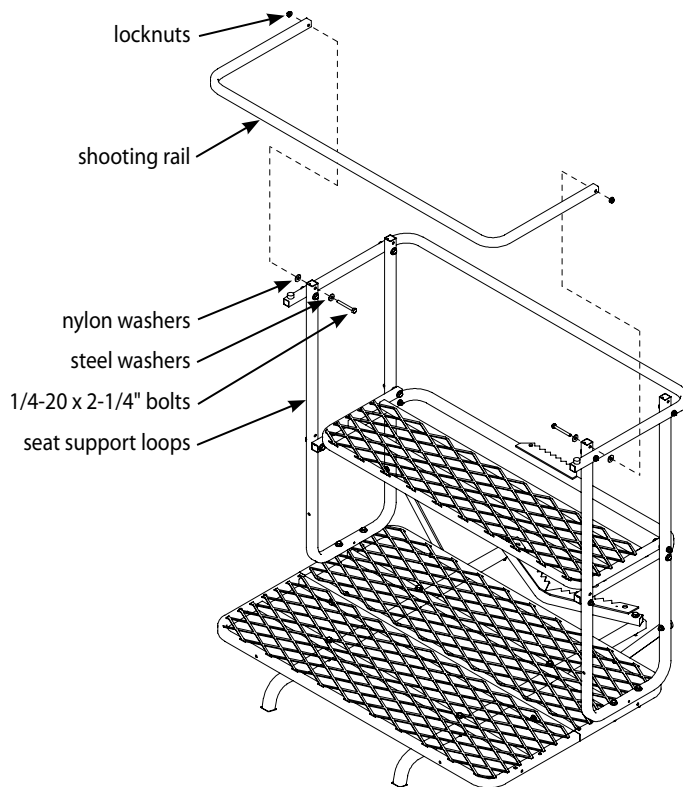

Figure 6
9. Attach the shooting rail (2ML64) to the outside upper front holes at top ends of side seat support loops using (2) provided 1/4-20 x 2-1/4" bolts, locknuts, nylon washers, and steel washers. **SEE FIGURE 6. You must now tighten all nut & bolt assemblies. Be sure not to over tighten or crush tubing when tightening!**